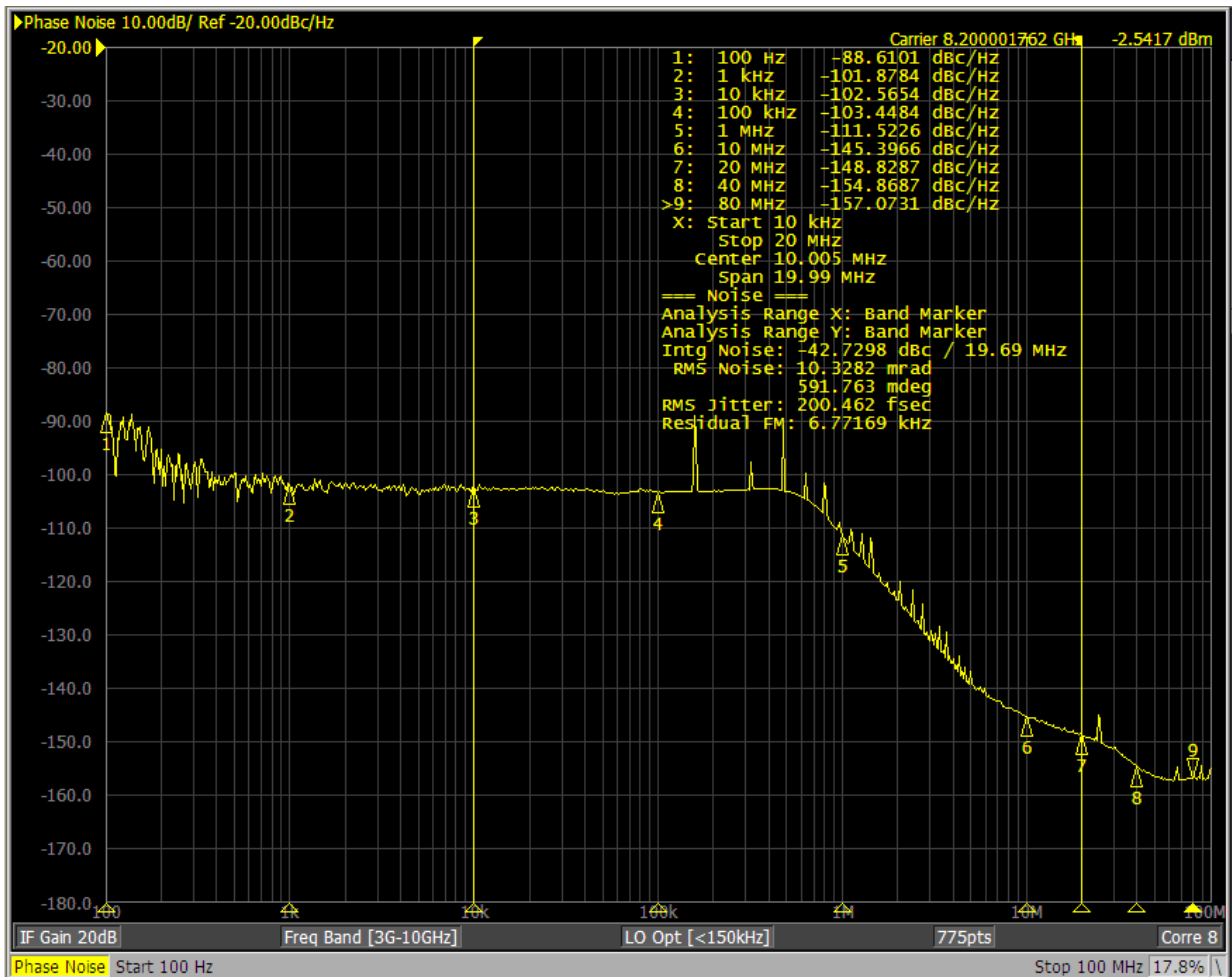
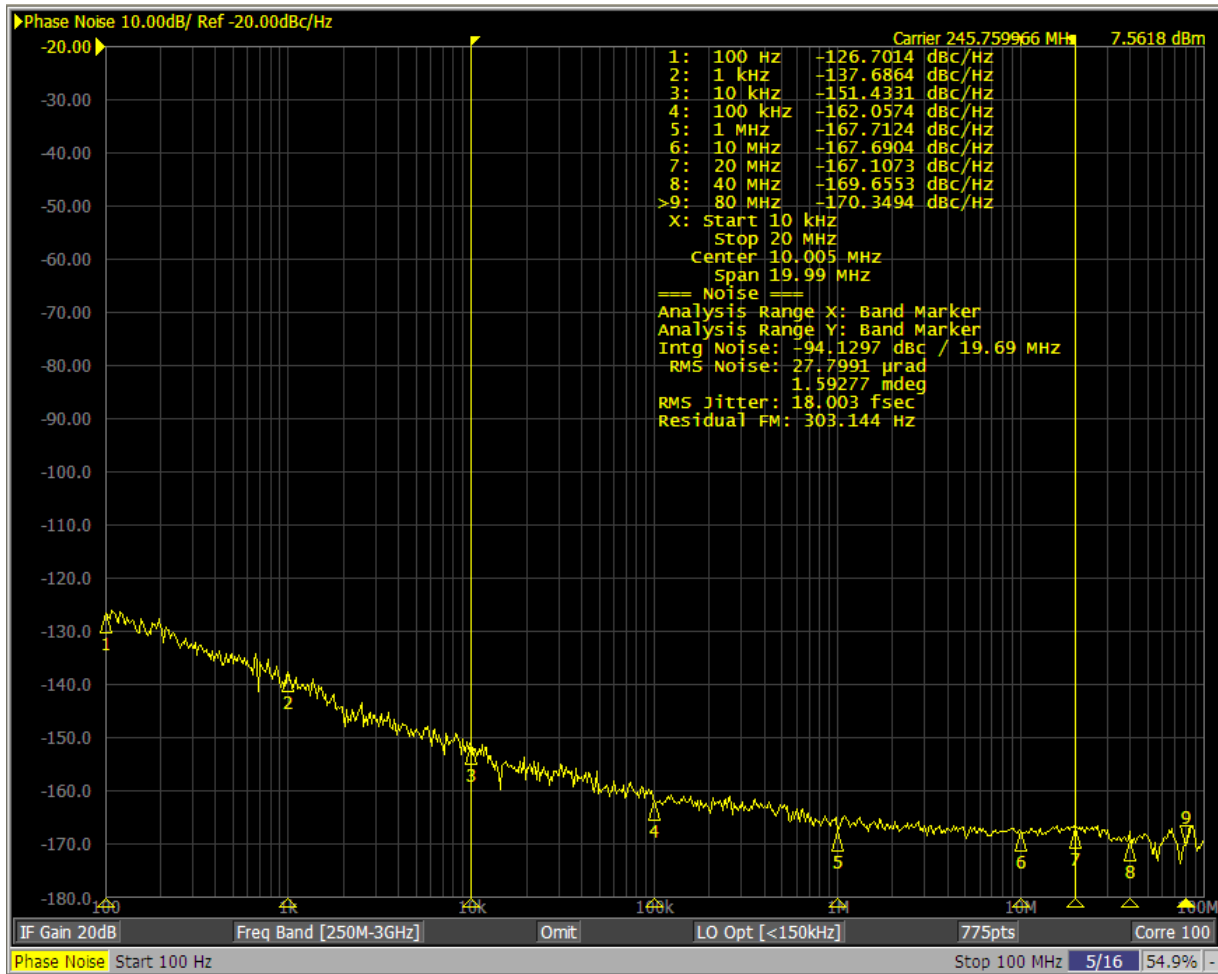

Figure 22. Expected Performance of 8200MHz Output without Bleeder Current from Example 2
Figure 24. Phase Noise Performance of 245.76MHz Input Reference Clock
- b. Charge pump current can be used to vary the loop bandwidth, therefore optimize phase noise and/or integrated RMS jitter. Set Pmos = 8.5mA, Nmos = 8.5mA to get the performance shown in the phase noise plot in Figure 22.
Phase noise measurement results shown in Figure 22, Figure 24, and Figure 25 were obtained with the input reference clock from a bench signal generator. Because the in-band phase noise performance of 8V97003 RF/Microwave Synthesizer is dictated by the phase noise performance of the input reference, the input reference’s phase noise performance is provided in Figure 26.